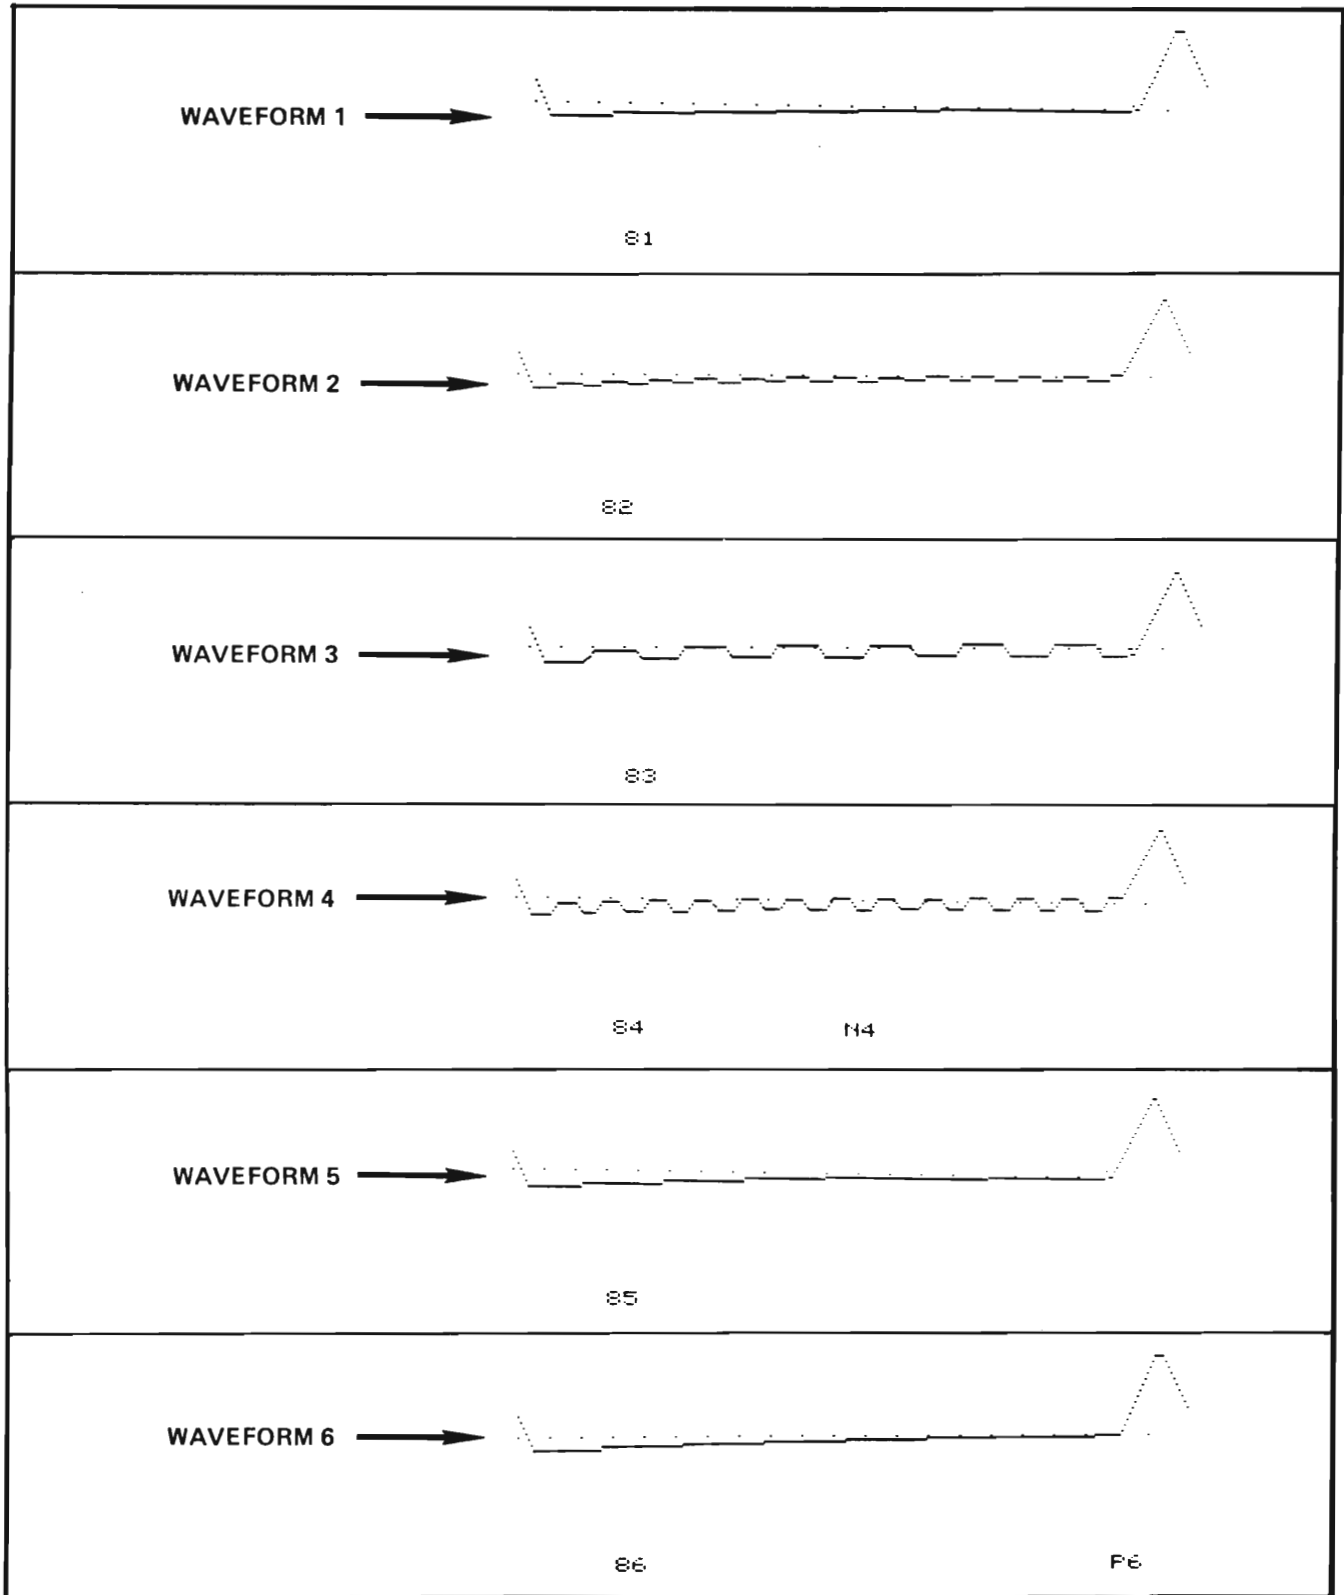

Figure 3-7. Test 5 Waveforms (Single Pattern)
- c. A series of six test waveforms should be displayed at the 78512 screen. The six waveforms are presented one at a time, for approximately four seconds each, and cycle repeatedly. Each waveform will be accompanied by ID characters for distinguishing between each. For example, sample waveforms shown in Figure 3-7 have ID codes 81 through 86, indicating the waveforms are representative of bedside number 8, waves 1 through 6.
- d. Check the test waveforms against the samples shown in Figure 3-7 and verify that each waveform appears as specified. If the diagnostic routine crashes, or if a particular waveform is absent or distorted, replace ROMs C1, C2, and C3 on the Firmware PC Board (13304A) in the computer (5851-0983,84,85).